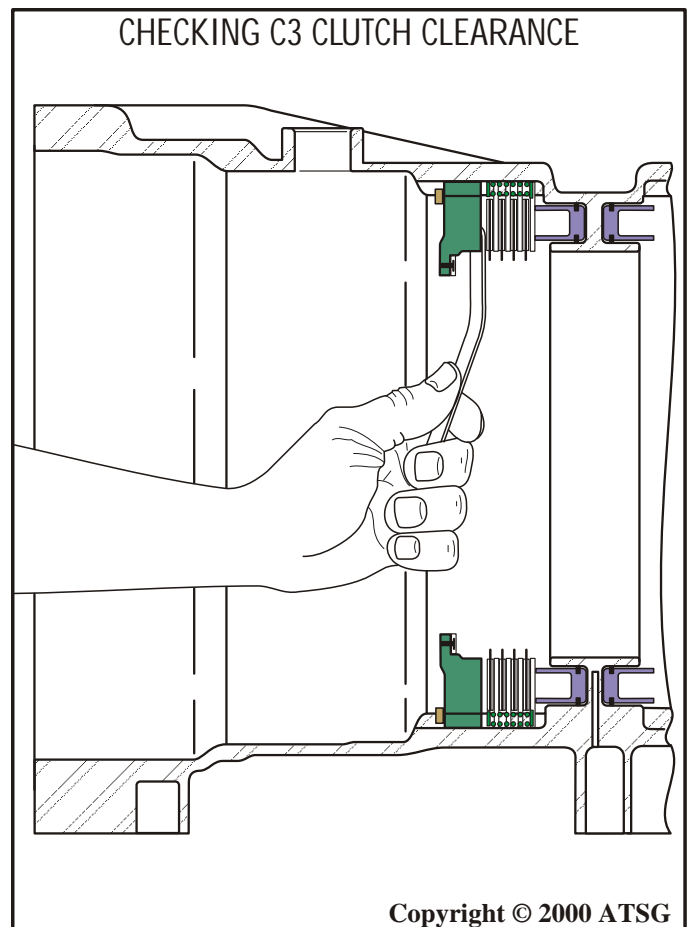

Figure 80
9. Check the C3 clutch clearance using a feeler gage, through the front opening in transmission case, as shown in Figure 80.
11. Rotate the transmission in the fixture so that the rear of the transmission is facing up, as shown in Figure 80.